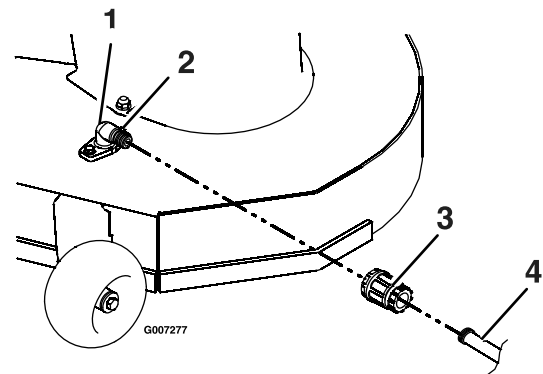

Figure 47
- Attach the hose coupling to the end of the mower washout fitting, and turn the water on high (Figure 47).